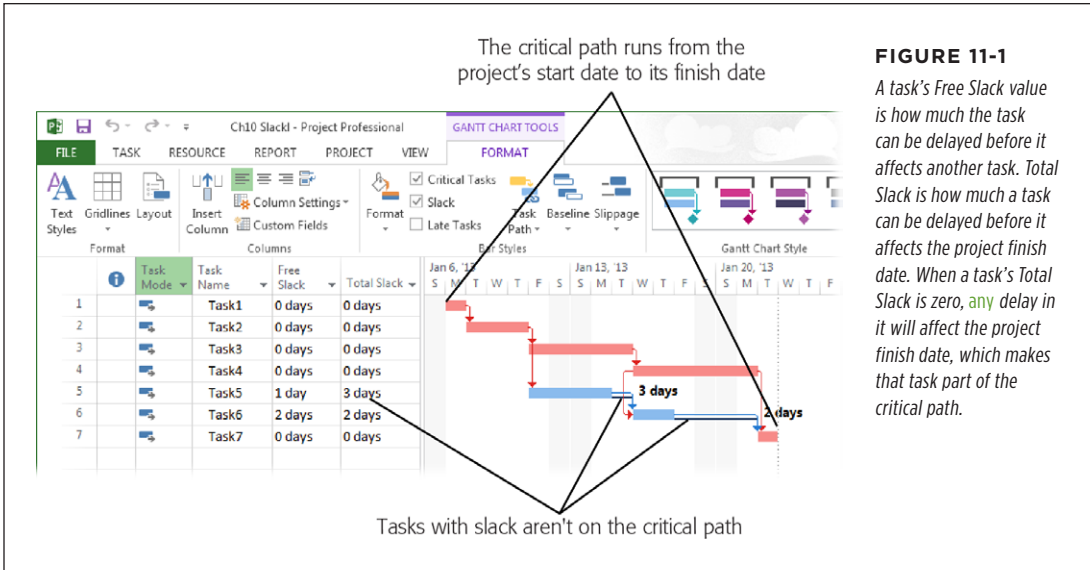

FIGURE 11-1
To understand where the critical path comes from, you need to understand *slack time* (also called float), which is the amount of time that a task can slip without delaying the tasks that follow it (see Figure 11-1). When you link tasks (page 176), predecessor tasks can push (or pull) their successors around. For instance, if a predecessor starts late enough or takes too long for whatever reason, it delays the tasks that follow it. Slack time is the amount of wiggle room a task has. (As you'll see later in this chapter, you can use slack time to help balance people's workloads.)
- **Free Slack** represents the amount of time a task can slip before it delays another *task*. For example, Task5 in Figure 11-1 can slip 1 day before it will delay Task6.
- **Total Slack** is the amount of time a task can slip before it delays the *project finish date*. In Figure 11-1, Task6 has 2 days of total slack, because it can delay 2 days before it affects the last task in the schedule. Once a task uses up its total slack, it becomes critical and joins the critical path. (Page 299 explains how tasks can end up with *negative* slack, which can lead to too many tasks on the critical path.)
If you look closely at Figure 11-1, you'll notice that the tasks on the critical path (Task1-Task4 and Task7) have one thing in common: Their Total Slack values are 0—meaning they have no slack whatsoever. When predecessors and successors are linked with no slack at all, as tightly coupled as a freight train's cars, then any delay propagates down the line, delaying the project finish date.
- Standard **Gantt Chart view** doesn't show the critical path or slack time initially—all you see are blue task bars. However, in Project, you can easily format this view to display the critical path and slack time. In the Gantt Chart Tools | Format tab's Bar Styles section, turn on the Critical Tasks checkbox and the Slack checkbox. Once you do that, the view's timescale displays critical tasks in red and slack as thin black bars (they look like underscores) at the right end of task bars (see Figure 11-1).